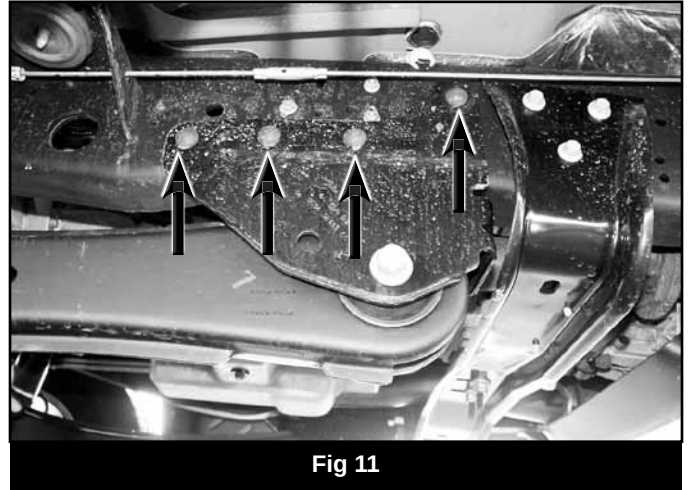

Fig 11
29. Locate the seven rivets that attach the OE radius arm mounting bracket to the frame. There will be four on the outside and three in the inside of the bracket fastening the bracket to the bottom of the frame. (Fig. 11)